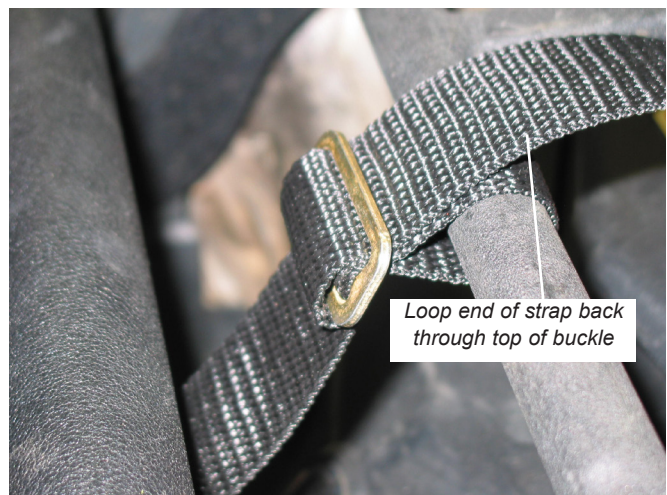

Figure 14
3. Once the strap is in place, loop back the excess strap through the top of the buckle as shown in Figure 14. Cut or securely wrap any excess strap out of the way of moving parts, parts that emit heat, or any place that may restrict airflow. If the strap is cut, be sure to sear the end to prevent unraveling.